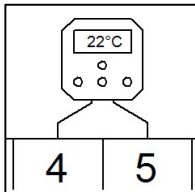

Figure 7 - Modulating thermostat connection.
1. Connect the two control wires to terminals 4 and 5 (see figures 7 & the electrical wiring diagram in §9).